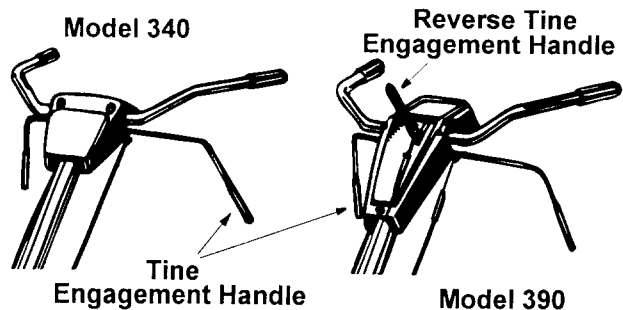

Figure 7
The reverse clutch cable is the cable which is attached closer to the front of the tiller. Attach the end of the reverse cable to the reverse tine drive clutch lever, above the handle assembly, in the same manner as you attached the forward cable. (See Figure 7.)
2. Make certain all controls are in the neutral position (released). (See Figure 7).